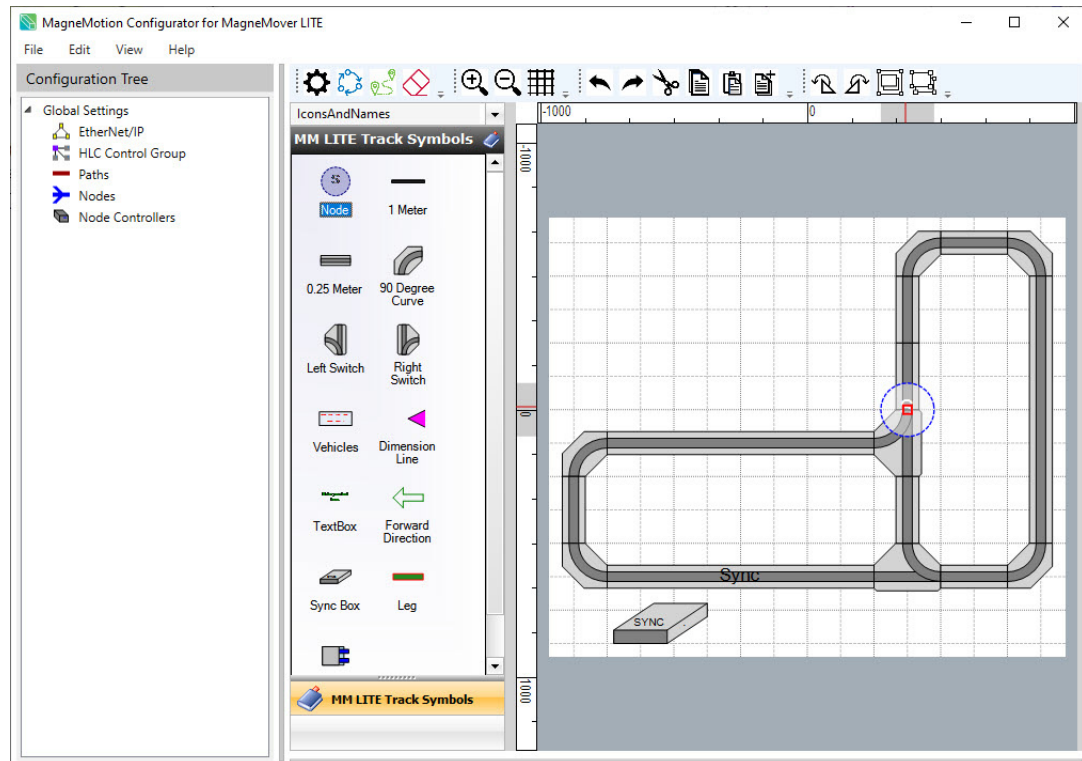

Figure 3-12: Define Nodes
1. Drag the node symbol onto the **Layout Area** and position it at the beginning or end of a path, see Figure 3-12.